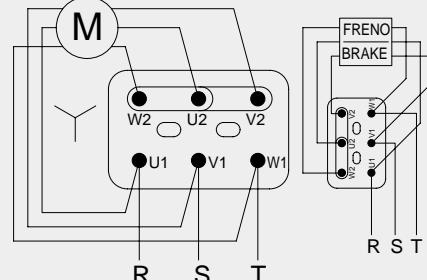

Fig. 19
#### Collegamento stella (Y): (fig. 19)
#### Delta connection (Y): (fig. 19)